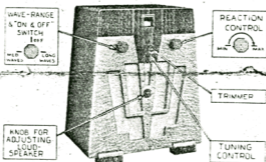

FIG. 2.
SWITCH. Ensure that the combined "Wave-Range and On-and-Off Switch" (see Fig. 2) is in the "Off," or centre, position before connecting the batteries.
OPERATION. (Refer to Fig. 2.)
3. **Adjust the Loudspeaker.** For protection in transit the speaker is sent out in an unadjusted condition and should now be adjusted by turning the adjusting knob (see Fig. 2) two or three turns in a clock-wise direction. After a station has been tuned in the speaker may be adjusted finally for best results.